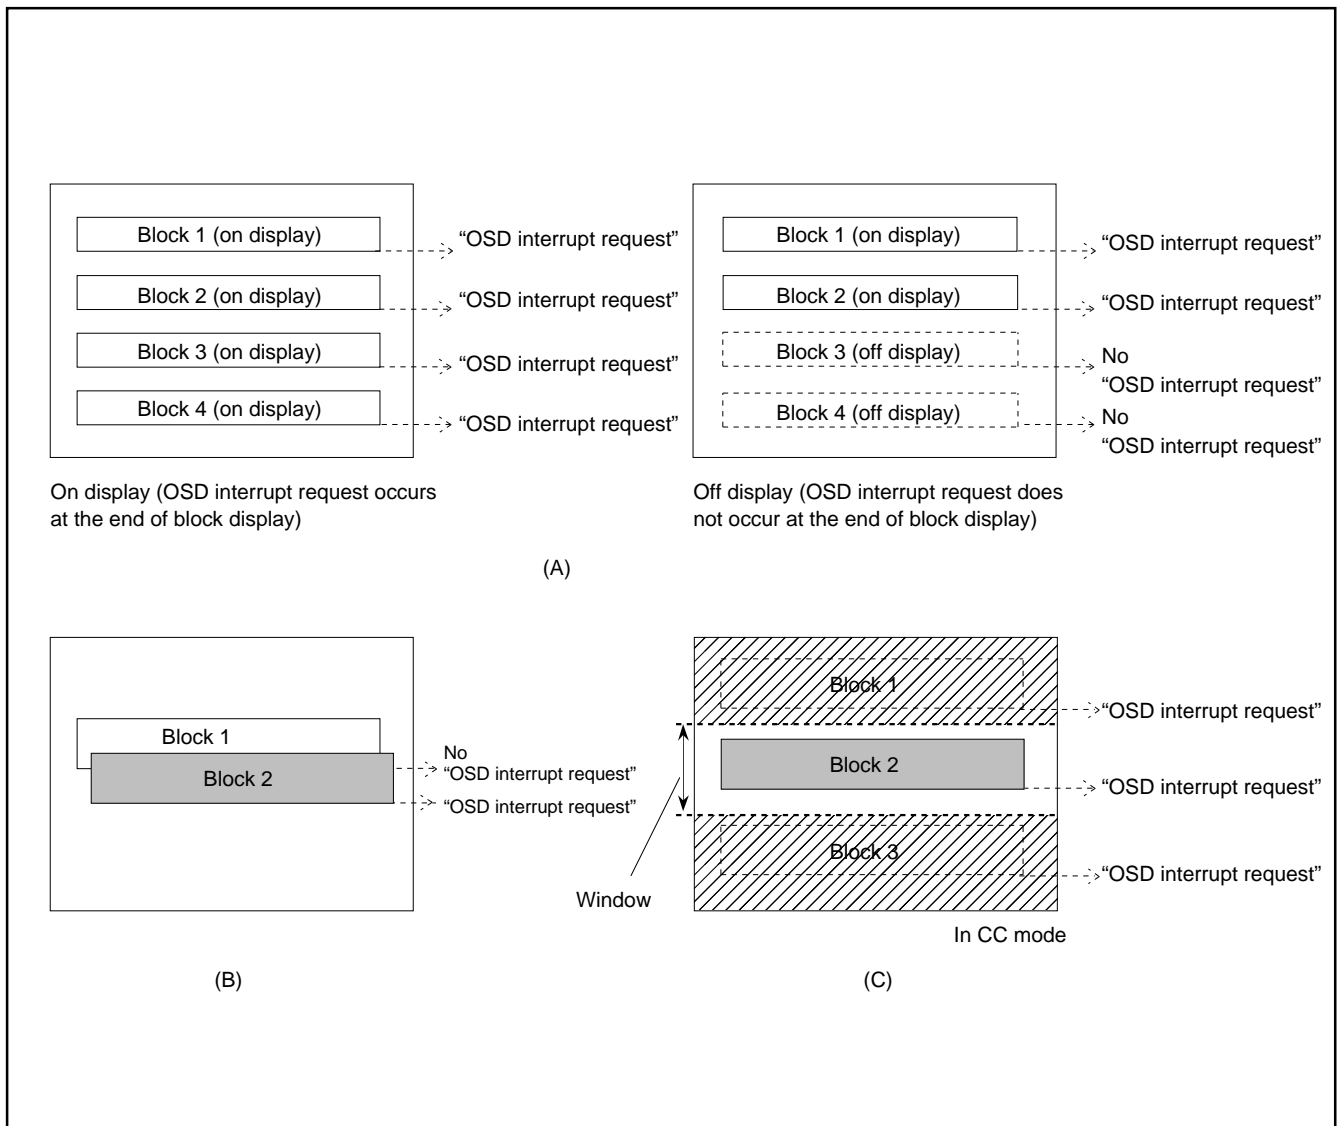

Fig. 93. Note on Occurrence of OSD Interrupt
- Notes 1:** An OSD interrupt does not occur at the end of display when the block is not displayed. In other words, if a block is set to off display by the display control bit of the block control register (addresses 00D0₁₆ to 00DB₁₆), an OSD interrupt request does not occur (refer to Figure 93 (A)).
- 2:** When another block display appears while one block is displayed, an OSD interrupt request occurs only once at the end of the another block display (refer to Figure 93 (B)).
- 3:** On the screen setting window, an OSD interrupt occurs even at the end of the CC mode block (off display) out of window (refer to Figure 93 (C)).